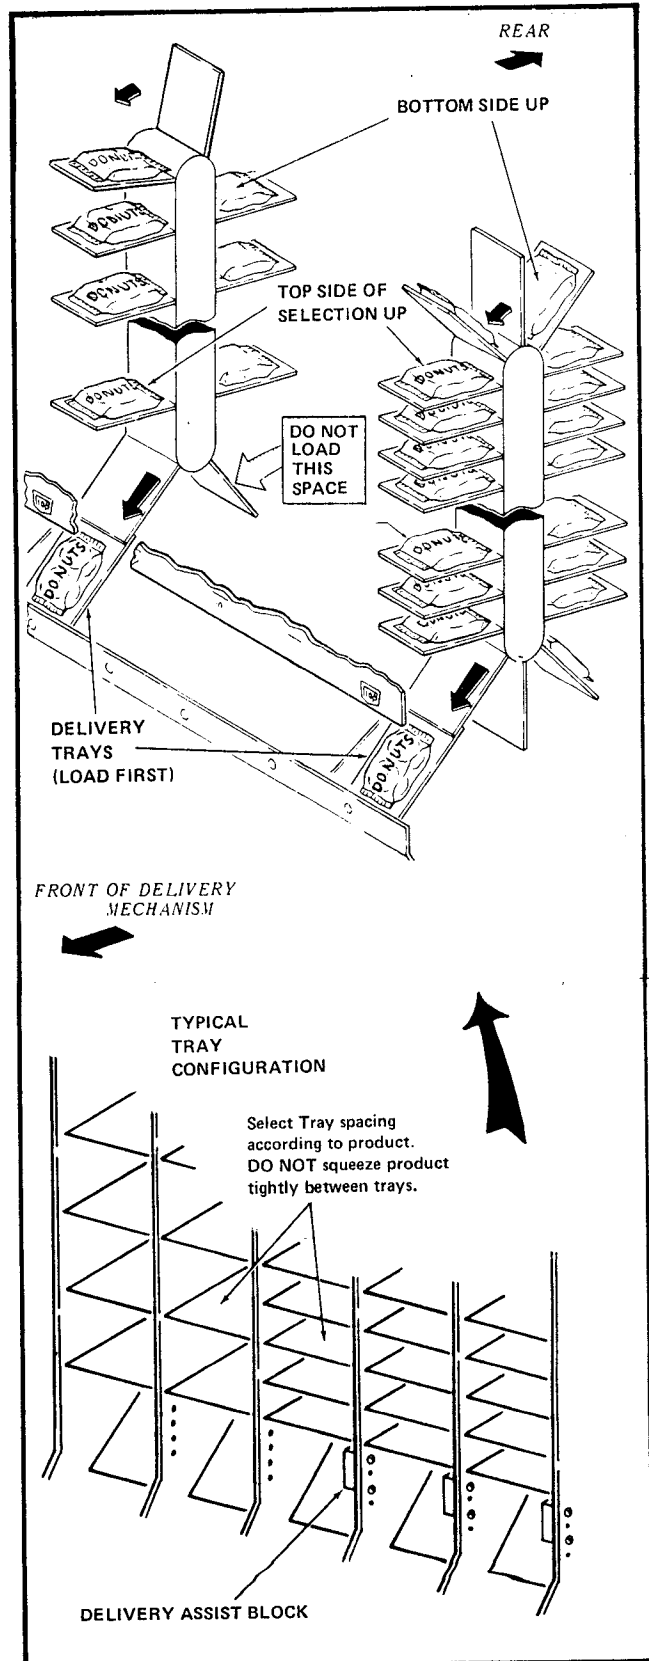

Figure 2-1. Loading the Magazine Columns
There is a Delivery Assist Block (See Figure 2-1) attached by two screws to the lower right front of each of the 40 capacity Columns. This Block is essential for Pastry vending. However, this Block should be removed if found to cause difficulty when vending extremely large items other than Pastry. Always reinstall Block to vend Pastry. Use upper mounting holes for the 40 capacity Columns.
3. Load the Delivery Trays and all accessible Trays of Columns 1 through 5 with the product. See Figure 2-1. Select the Column having the Tray spacing most compatible with the product(s) to be vended in that Column.